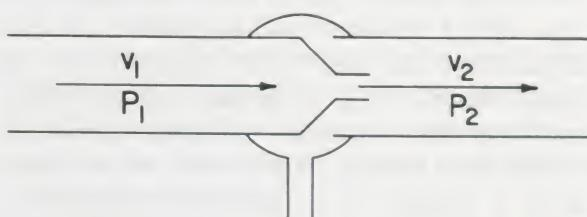

Figure 33.
**Example 13.** Figure 33 illustrates an aspirator. Suppose the water speed into the aspirator is 6.66 m/s and water speed just past the constriction is 20.5 m/s. If the input pressure is  $2 \times 10^5 \text{ N/m}^2$  (1.97 atm), find the "pumping" pressure. (The density of water is  $1000 \text{ kg/m}^3$ .)